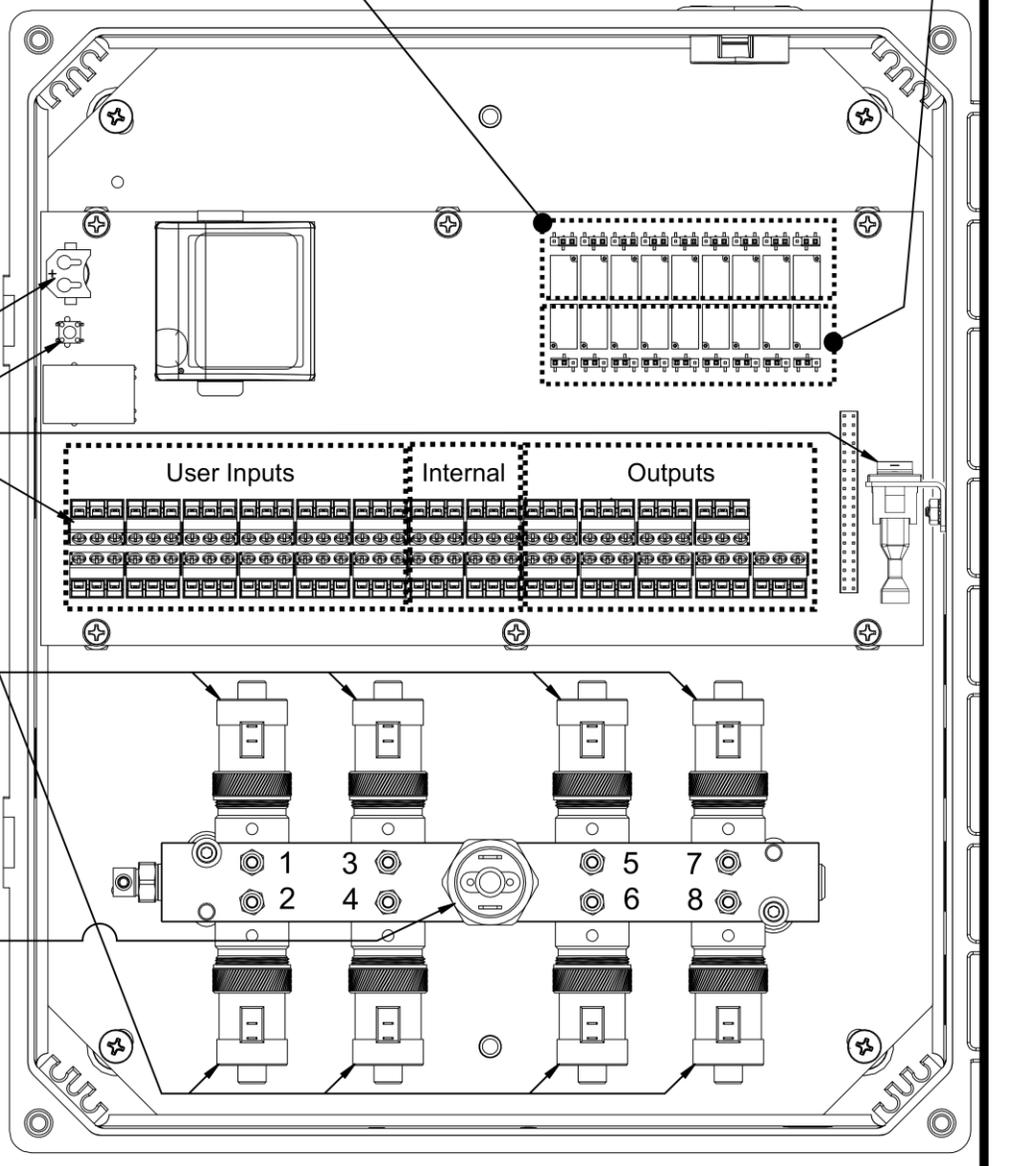

Figure 3
Figure 3 shows the general internal arrangement of the system, the circuit board and the internal power switch. It also shows the Dry Contact Relay placement, the Customer Input terminal strips, the internal terminal strips, the Dry Contact Relay Output terminal strips and the reset button. This figure also shows the Pneumatic Valves that control the outlet bulkhead fittings on the side of the ESO – used to control Pneumatic Valves.
6. Wire the user Input Signal devices to the ESO system to the main control board user Input Terminal Strips shown in figure 3 & figure 5. The ESO provides +12V signal voltage to the user Input Signal devices.